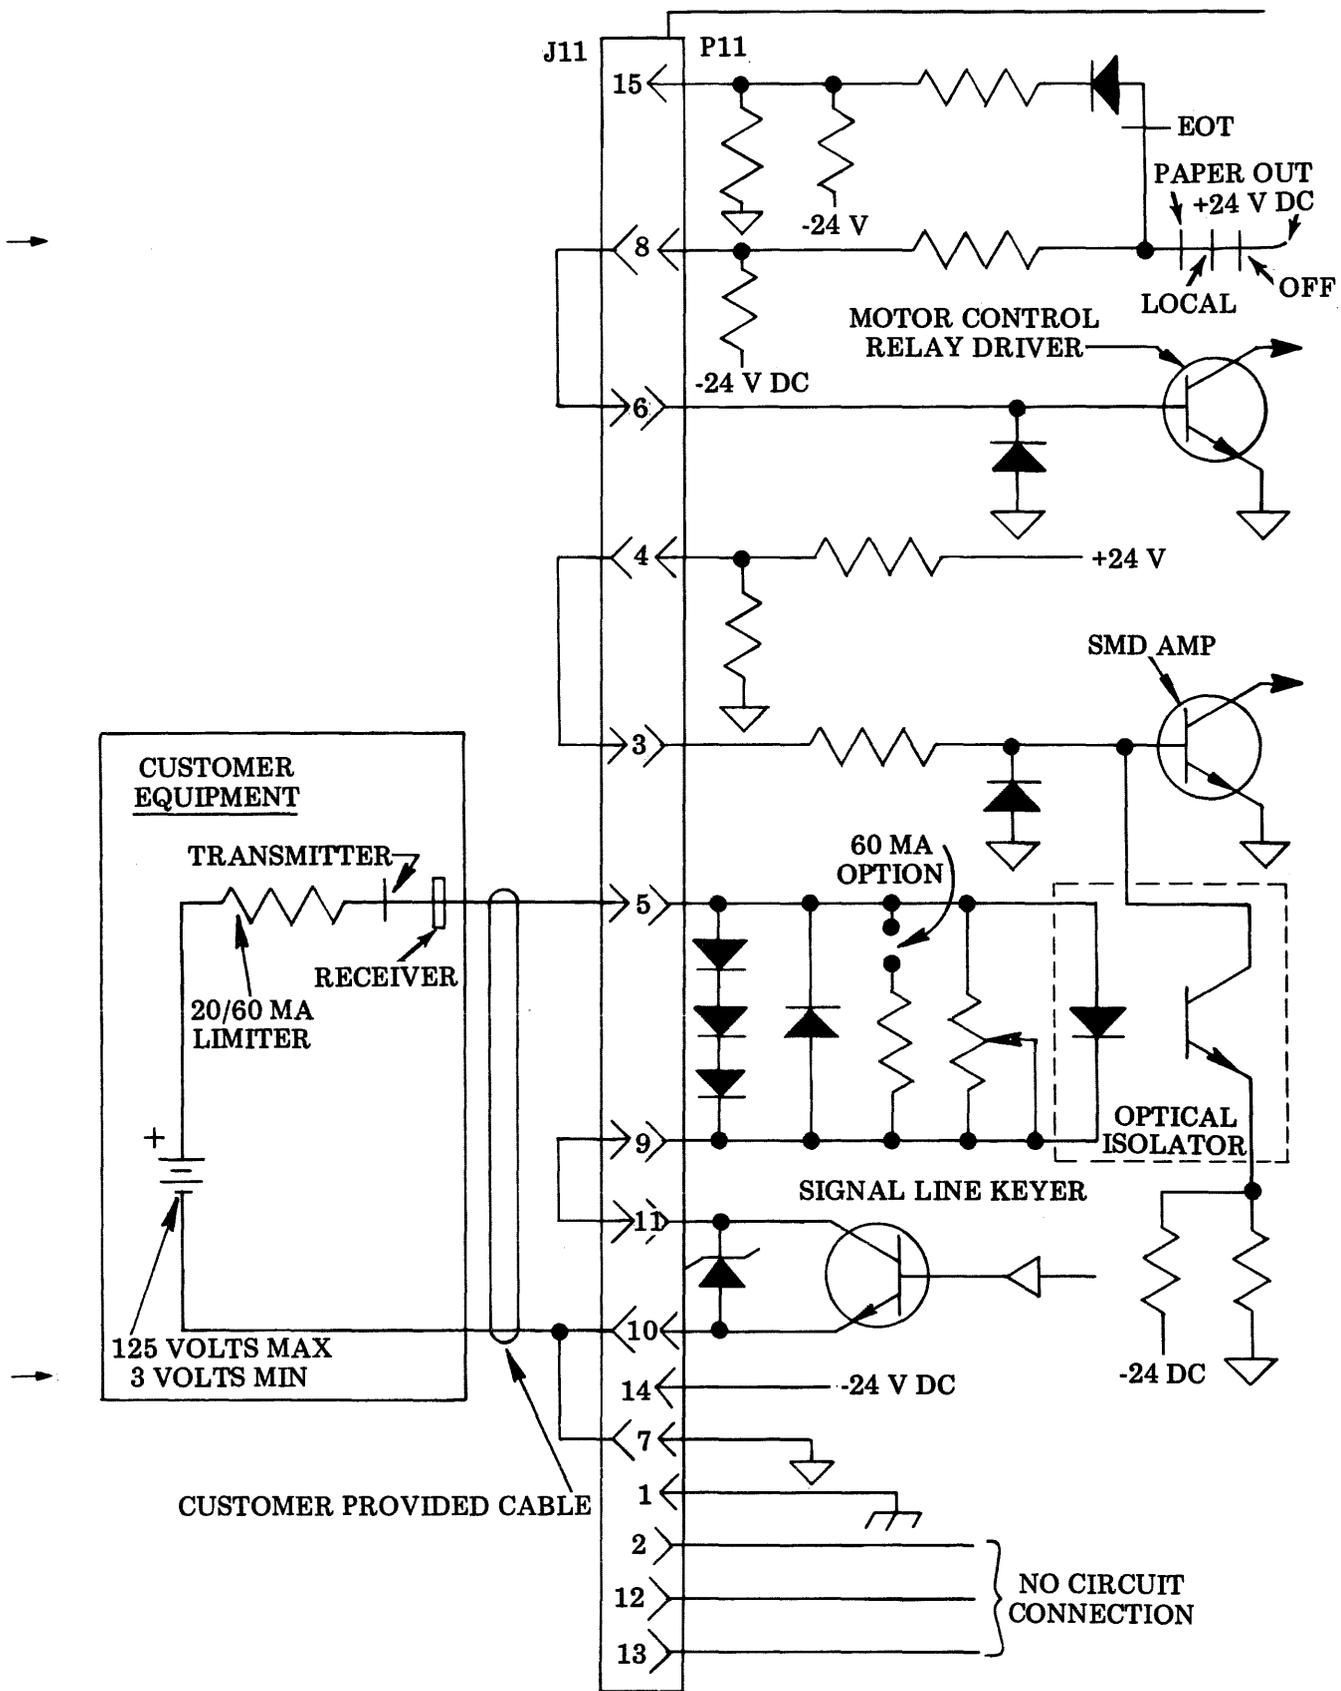
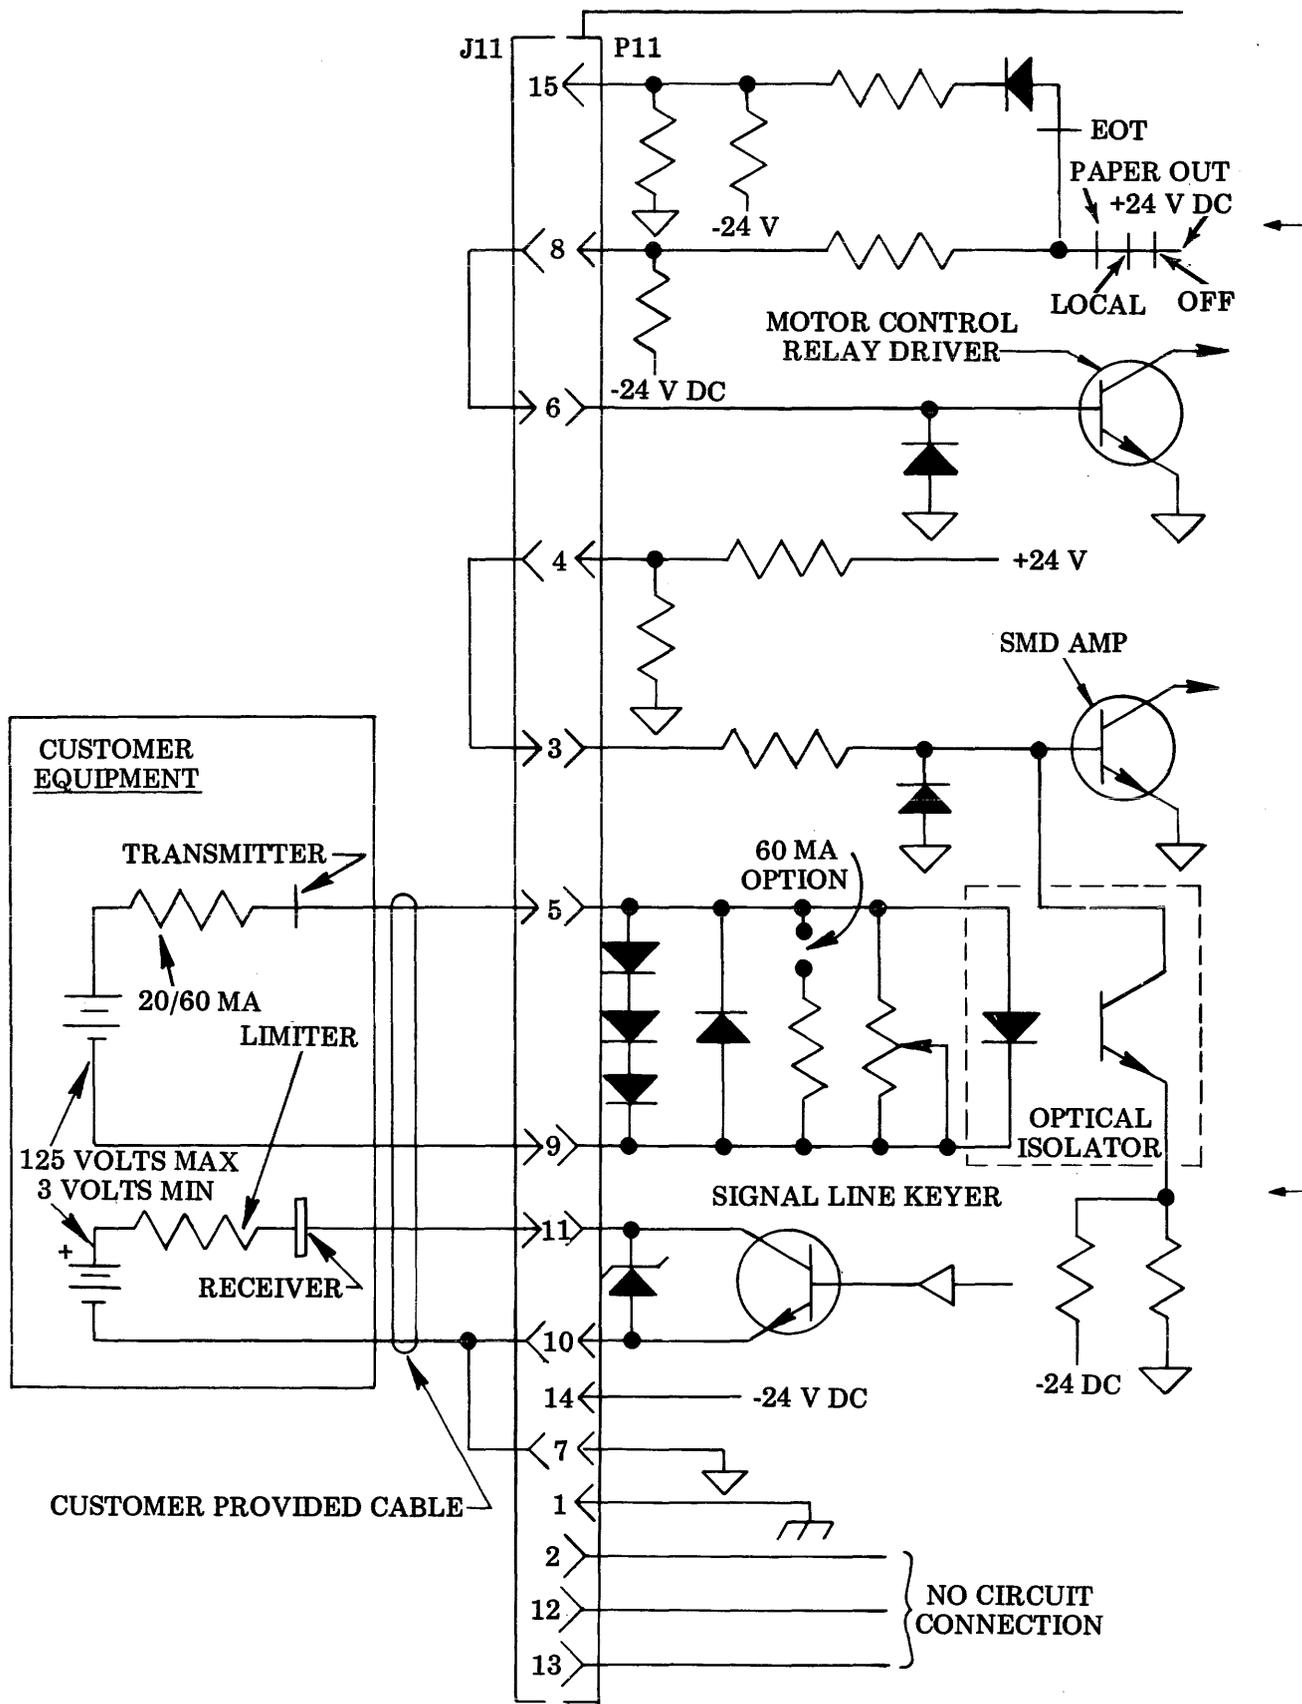

Figure 1 - Wiring for DC Half-Duplex (2-Wire) Operation
Figure 2 - Wiring for DC Full Duplex (4-Wire) Operation
2.05 Operation into a dc interface may be two-wire connected (half-duplex, Figure 1) or four-wire connected (full duplex, Figure 2).